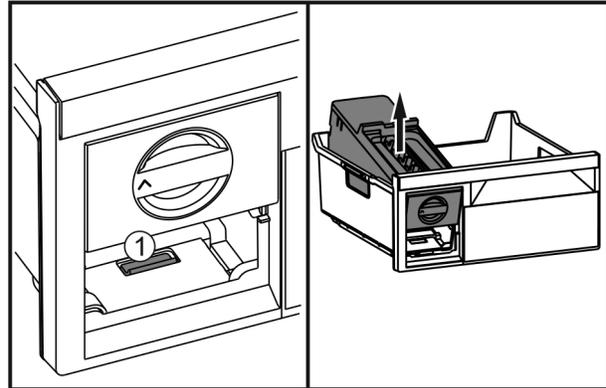

Fig. 46
- ▶ Press the lug *Fig. 46 (1)*, lift up the EasyTwist-Ice at the back and take it out of the freezer drawer.